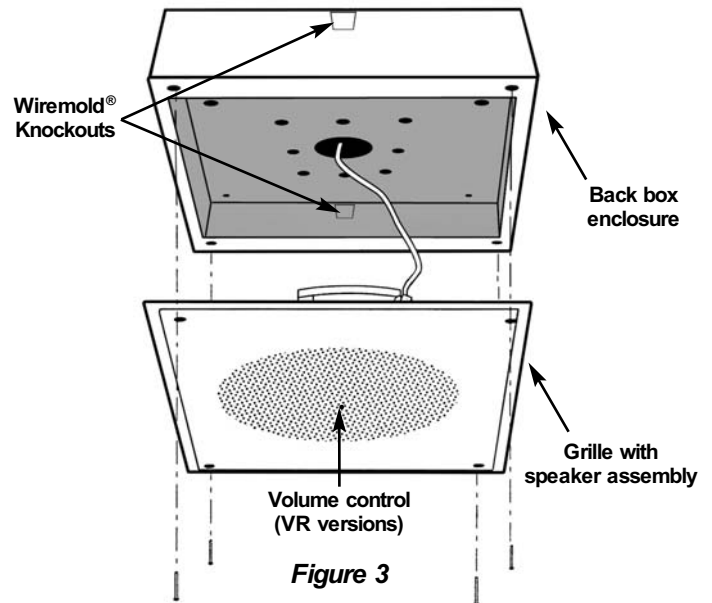

Figure 3
- Secure the speaker/faceplate assembly to the mounted enclosure. Use four 1" screws (included). See **Figure 3**.